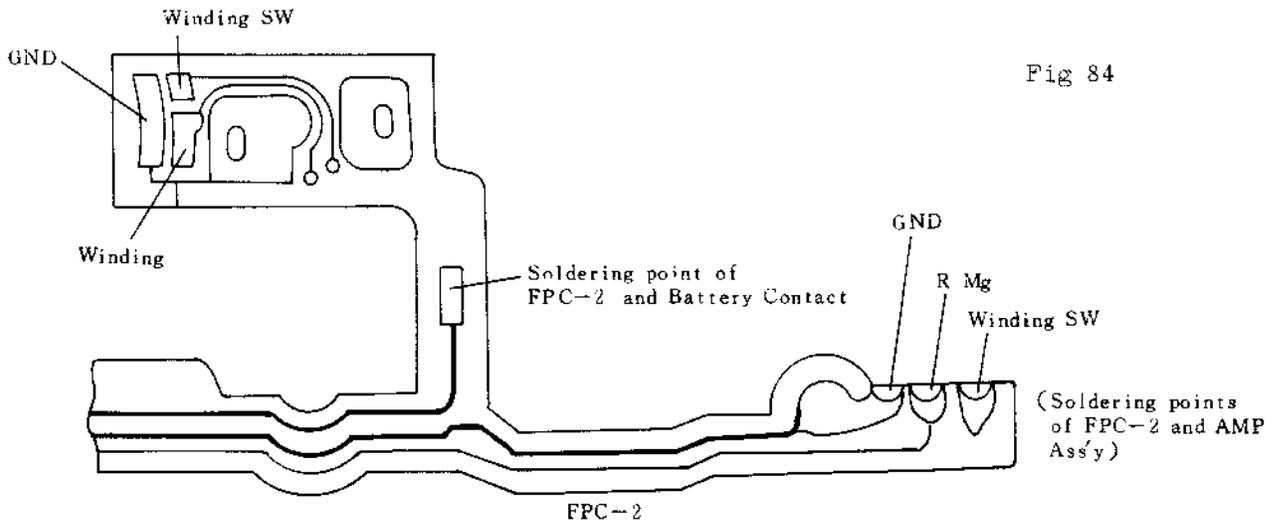

Fig 84
(1) Malcontact of W.Obstruction Lever contact.
(2) Malcontact of Terminal Pin (260174) of W- 7 and Connector Pin (159196).
(3) Pattern of FPC - 2 is dirty as shown below.
(4) Bad soldering of soldering point of AMP Ass'y and FPC - 2 as Shown in (Fig 84).